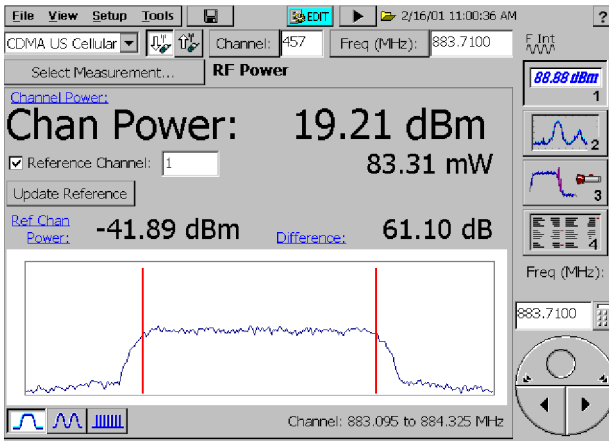

Figure 3-33: RF Power measurement for CDMA
5. Tap **RF Power**. See Figure 3-33.